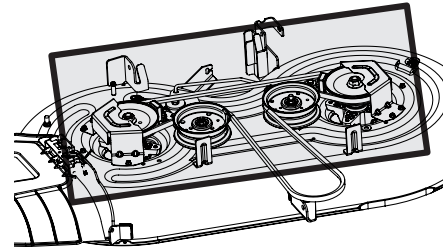

Figure 23
- Clean the top of the tractor deck, under the spindle covers and belt area. See Figure 23.